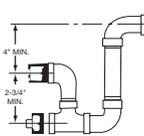

Figure 6a
**Important: When air handler is installed in the vertical position and close proximity trapping of condensate is required, use of a subbase accessory to raise the air handler for clearance of the drain trap is recommended. For a typical drain trap assembly, see figure 6a and 6b.**